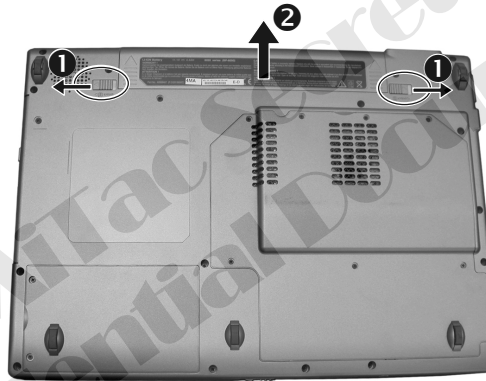

Figure 2-1 Remove the battery pack
2. Slide the two release lever outwards to the “unlock” position (❶), while take the battery pack out of the compartment (❷). (Figure 2-1)